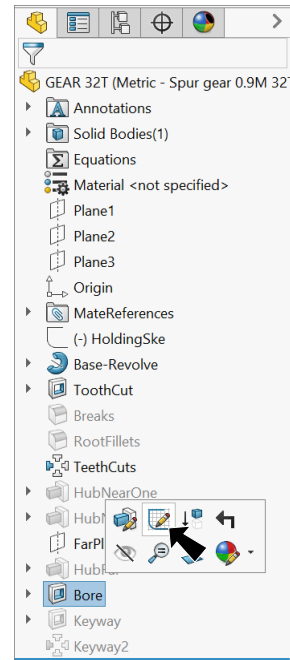

Fig. 5
Step 1. Click **Bore**  in the Feature Manager and click **Edit Sketch**  on the context toolbar, **Fig. 5**.